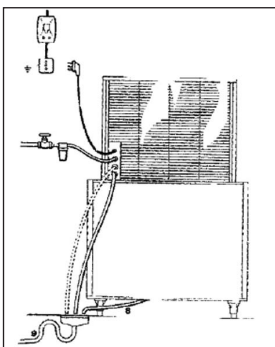

Fig. 9.
k) Fit the flexible drain pipes to the icemaker and the storage bin ensuring there is adequate fall on the pipes to avoid the drain water backing up. For a perfect water outlet from the machine a minimum incline of 3% of the pipes is advisable. Check also that the pipes are not trapped or siphoned. It is advisable that the pipes discharge in an open vented drain (Fig.9).